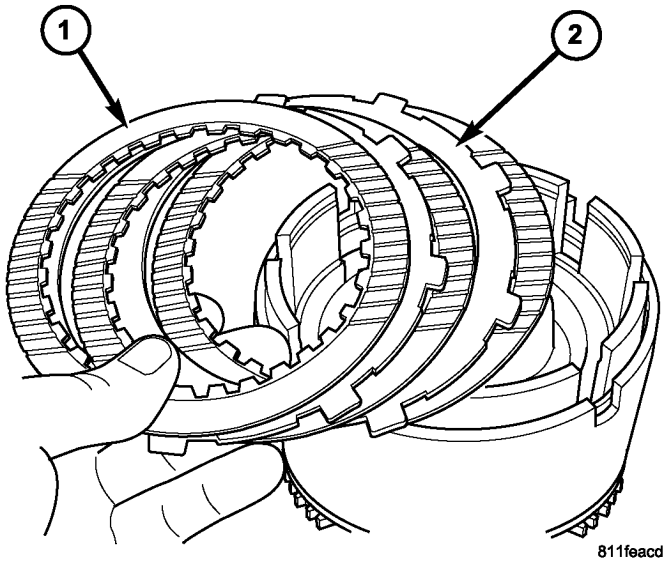

Fig. 236 Install Overdrive Clutch Pack
(21) Install the OD clutch pack (Fig. 236).